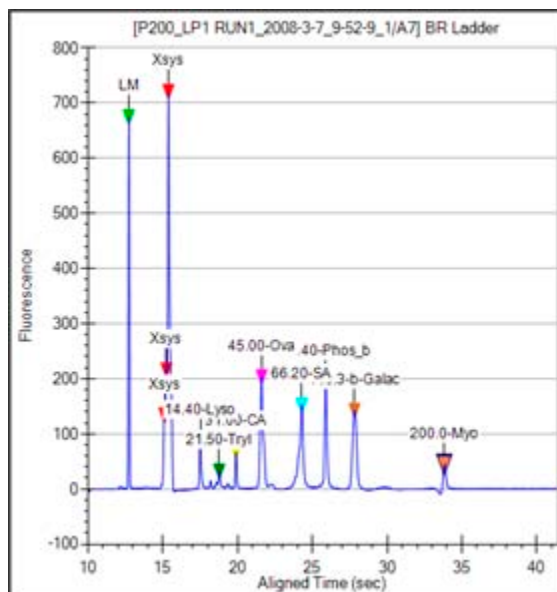

Figure 10. Markers - Protein
- 6 A **Lower Marker** is the internal standard used to align the ladder data with data from the sample wells. Figure 10 shows an example of the assigned **Lower Marker** peak (marked LM) in a sample well.